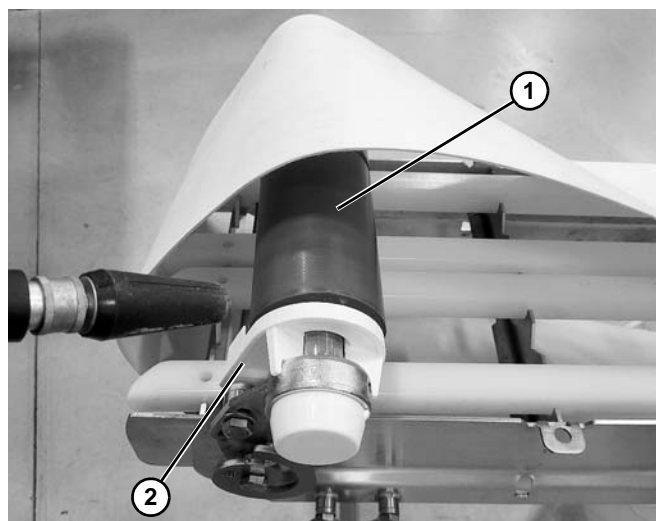

Figure 27
- Idler End: Clean spindle (**Figure 27, item 1**). Make sure to clean around pinch guards (**Figure 27, item 2**).